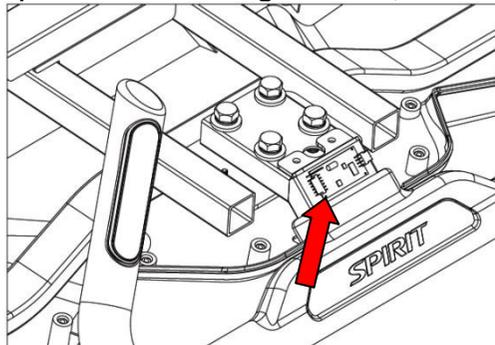

Figure 4.9.2
- 7) As shown in Figure 4.9.2, remove the 12P control cable connector and remove the core module wire